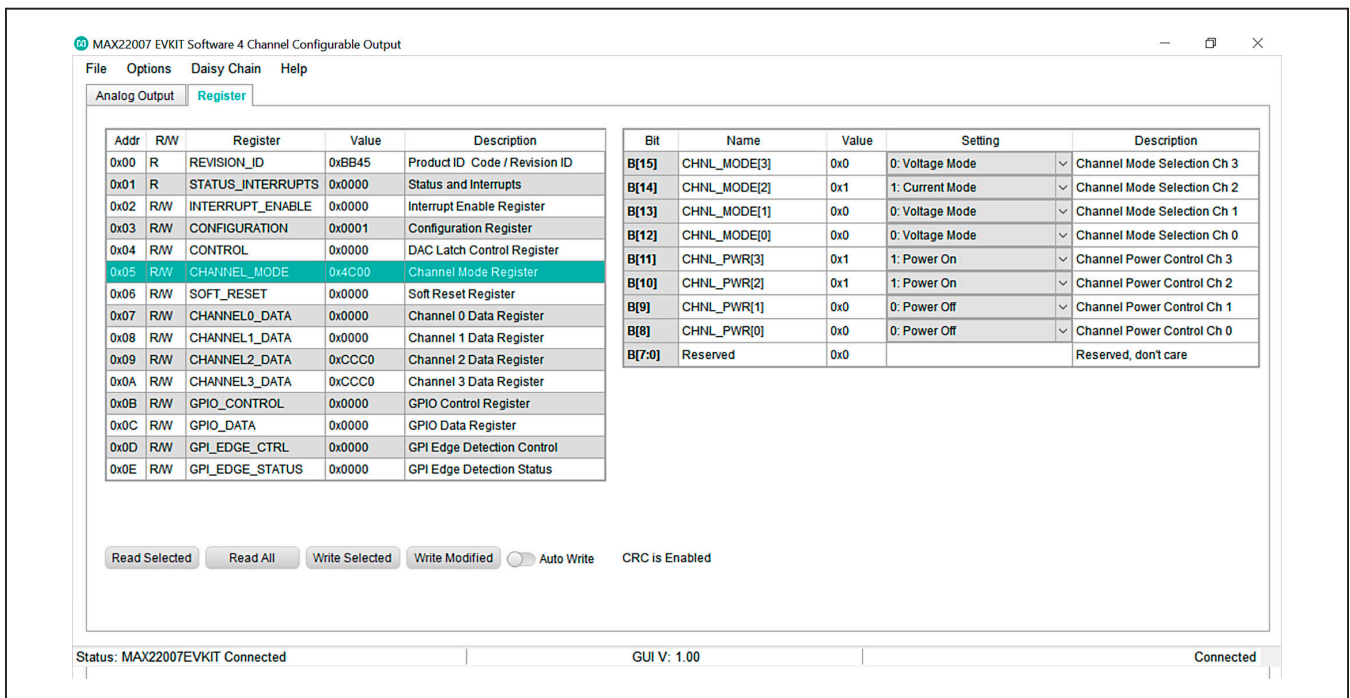

Figure 2. MAX22007 EV Kit Software, Register Tab
- 16) Inspect the contents of register 0x0A CHANNEL3_DATA and register 0x09 CHANNEL2_DATA are 0xCCC0 and match the values from the previous steps (Figure 2).